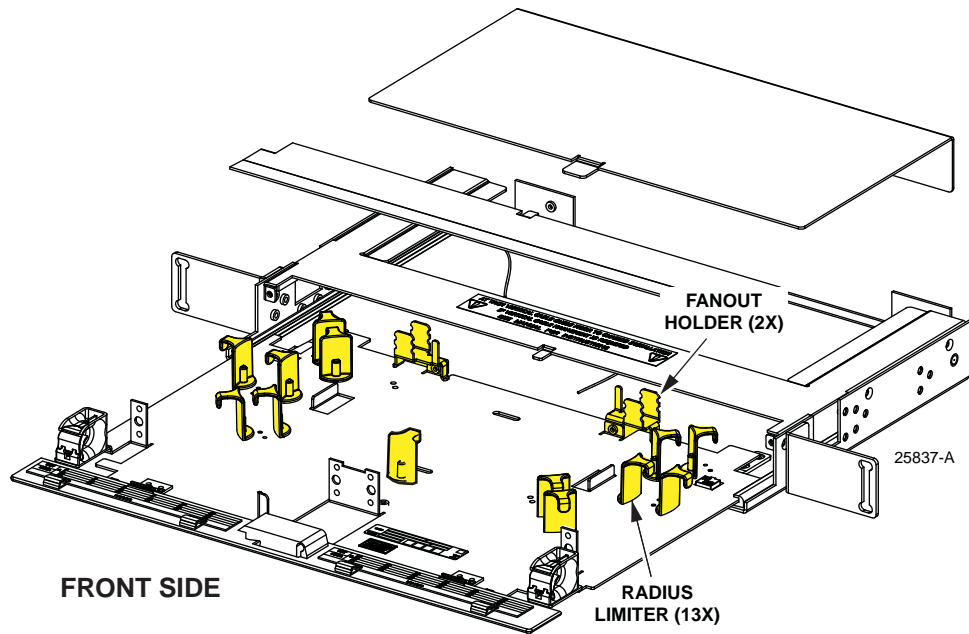
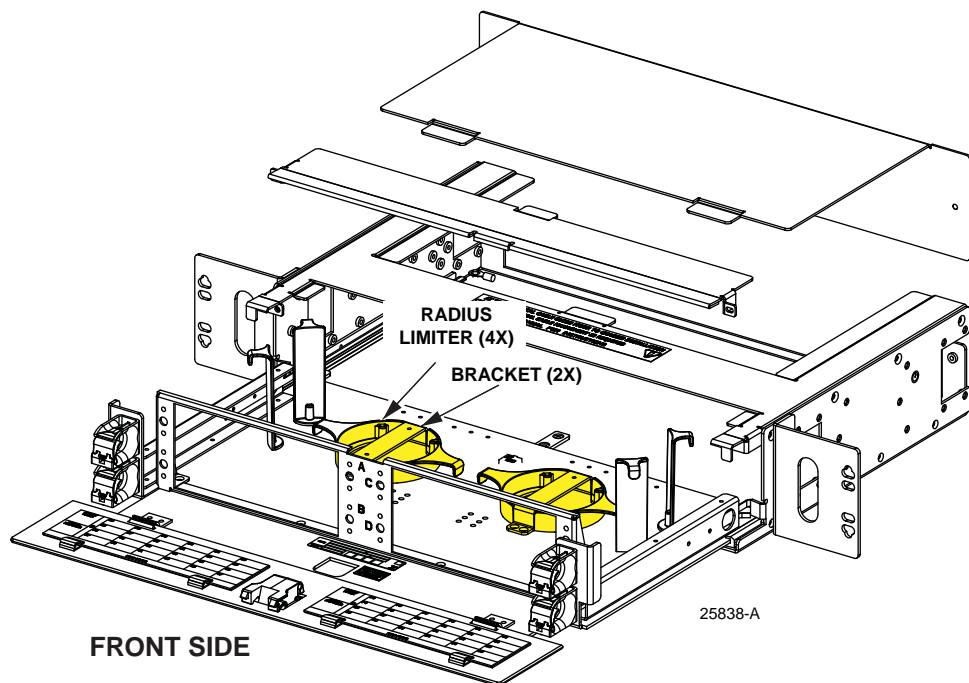

Figure 12. Radius Limiters to be Removed from 1RU Panel
Figure 13. Radius Limiters and Brackets to be Removed from 2RU Panel
2. If this is a 1RU panel (Figure 12), remove the two fanout holders and 13 radius limiters, each held by a single screw. If this is a 2RU panel (Figure 13), remove the four semi-circular radius limiters and the two brackets holding them.